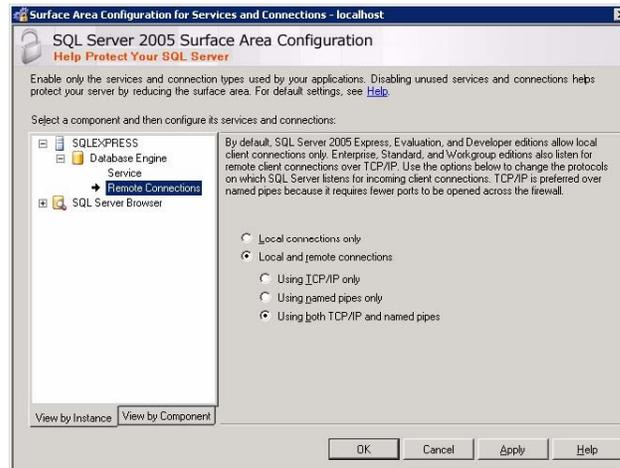

Figure 79
14. Click Remote Connections (see Figure 79 on page 50).